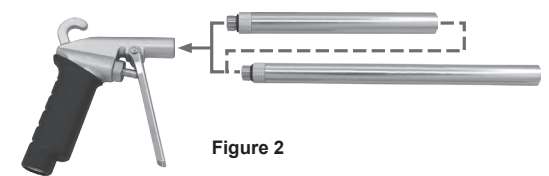

Figure 2
2. Apply either 6 in. extension (C) or 9 in. extension (D) or both to the 3 in. nozzle (B) as needed to reach deep areas. (See Figure 2)
3. Connect air supply hose (not included) to the air inlet (F). Use seal tape (not included) for airtight connection. Do not overtighten.